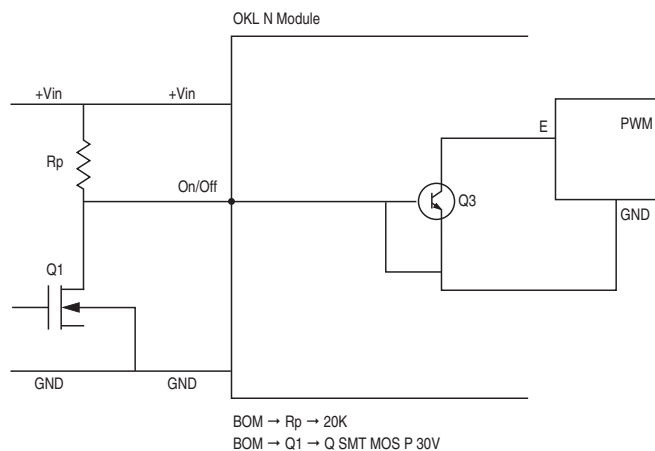

Figure 8. On/Off Circuit Control for Using Negative On/Off Logic
**Negative**—Units are enabled when the ON/Off is open or brought to within a low voltage (see specifications) with respect to -Vin. The unit is off when the ON/Off is pulled high with respect to -Vin (see specifications). The On/Off circuitry is shown in figure 8. The On/Off pin should be pulled high with an external pull-up resistor (20K ohms). When Q1 is in the off state, the On/Off pin is pulled high, transistor Q3 is turn on and the unit is off. To turn on the unit, Q1 is turn on, pulling the On/Off pin low and turning Q3 off resulting on the unit being on.